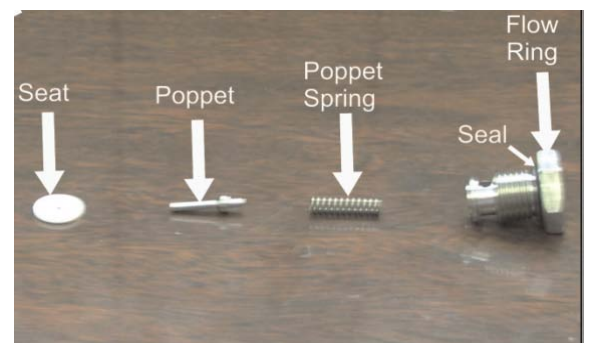

Figure 8
- 3.3.17 Remove the poppet spring and the poppet (see Figure 8).
- 3.3.19 Use a pointed instrument to carefully pick the seat out of the regulator body (see Figure 8).